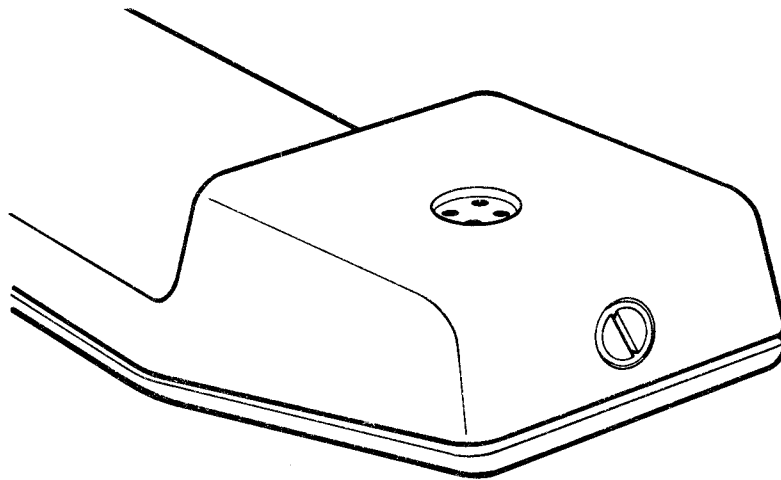

Fig 10. Handset Fixing Screw
- i Undo the fixing screw at the receiver end of the handset see fig 10